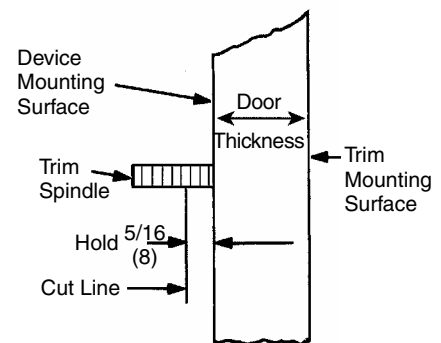

Figure 4
7. Cut trim spindle as shown. (Figure 4)